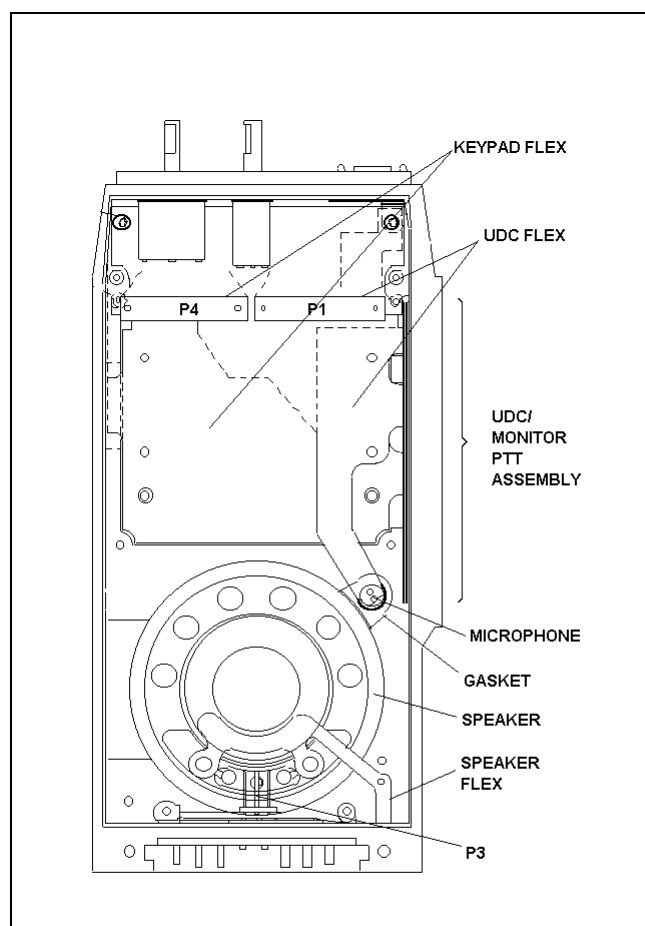

Figure 9 - Speaker, Microphone And Flex Circuit Access
Remove the Control Board as previously stated and then remove the six (6) Torx screws that secure the die-cast shield. Remove the die-cast shield by lifting the top end first and sliding it towards the top of the radio. The internal speaker, microphone, Keypad and UDC Flex circuits are now partially accessible. See Figure 9.